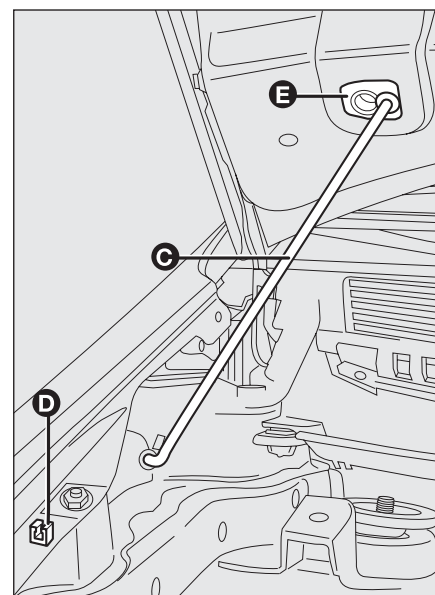

fig. 120
- ☐ lift the bonnet and at the same time release the rod **C**-fig. 120 from the catch, then fit end **D** of the rod into the bonnet recess **E**.
- ☐ hold the bonnet up with one hand and with the other remove rod **C**-fig. 120 from recess **D** and fit it back into its catch **E**;